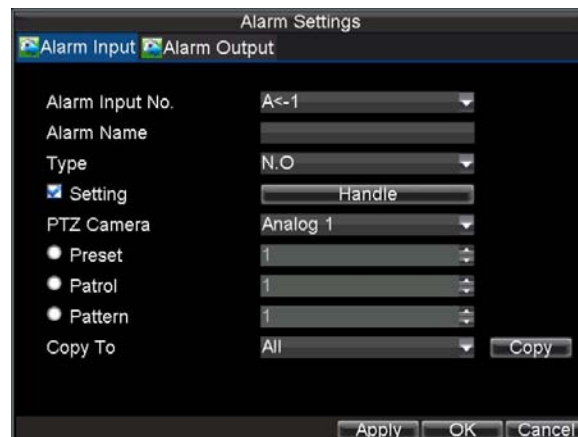

Figure7. Alarm Management Settings
2. Select the Alarm Input No. and click the *Set* button to enter the Alarm Input Settings menu, shown in Figure 7.